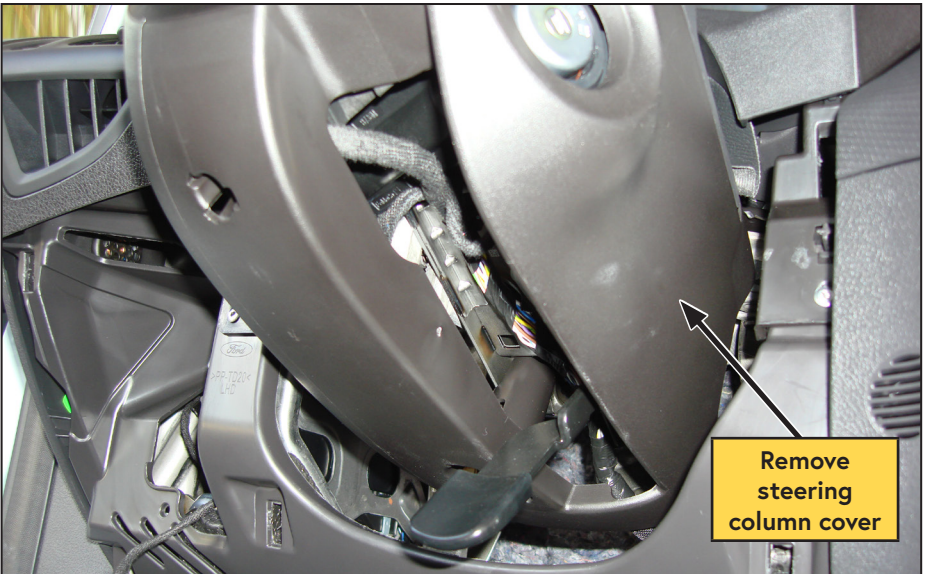

Figure 12 — Remove steering column cover
- Remove the lower steering column cover (Figure 12).